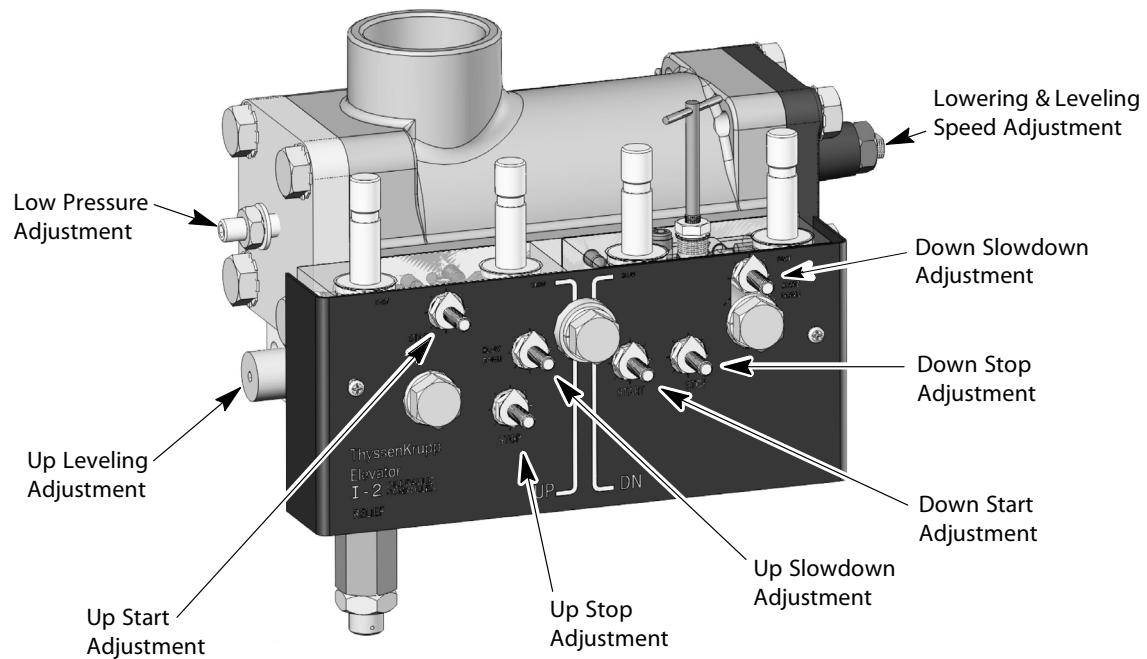

Figure 5 - Slowdown and Leveling Speed Adjustment
1. Turn the up slowdown adjustment OUT ten (10) turns (this action ensures that the car does not initially start up). See Figure 5 on page 13 for all steps in this procedure.
4. Verify that the down stop adjustment screw has been turned OUT ten (10) turns (this action ensures the car does not initially start down).